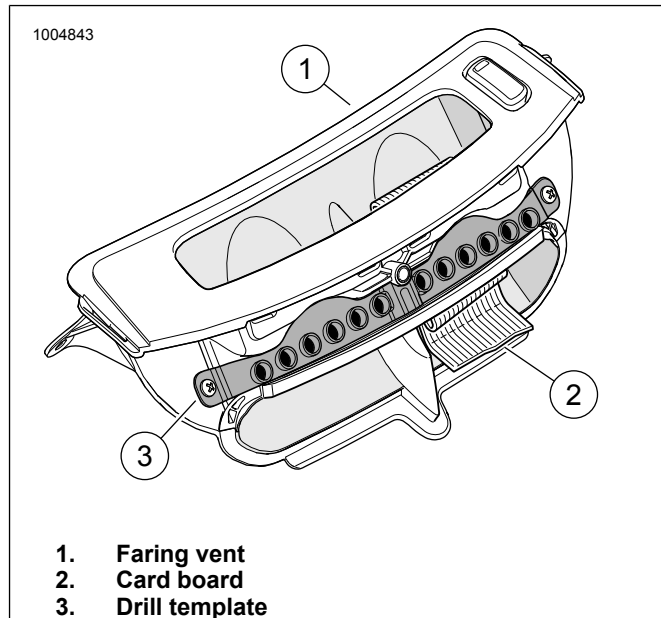

Figure 4. Drill Template and Vent
Figure 4 Position drill template (3) on fairing vent (1). Drill two pilot holes using a 7/64-in. drill bit. The pilot holes are drilled for the two #4 x 3/8 in. truss head screws use in retaining the drill template to the fairing.
4. Figure 4 Using folded over cardboard (2) or thin wood block, insert item into vent intake as a drill stop. This is done to prevent the drill bit from punching through the plastic and damaging the opposite side of the fairing vent.